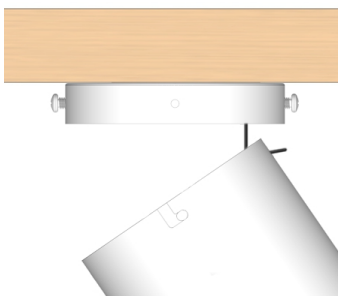

Fig. 6.1
6.1 Carefully lift the fan-motor assembly and hang it using the hook of the mounting plate. Securely suspend the motor assembly by using one of the round holes at the outer rim of the motor housing as shown in Fig. 6.1.
Make sure all the wires are connected to the correct colors as shown in Fig. 6.1. Then, hide the wiring inside the motor housing.